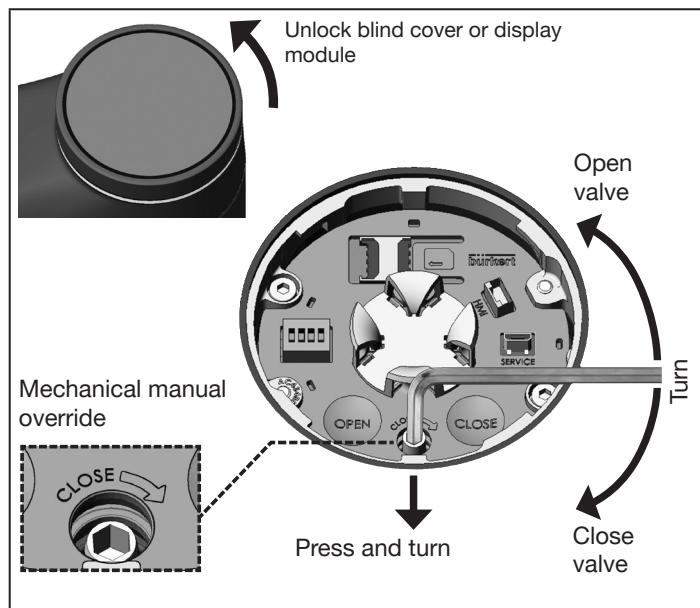
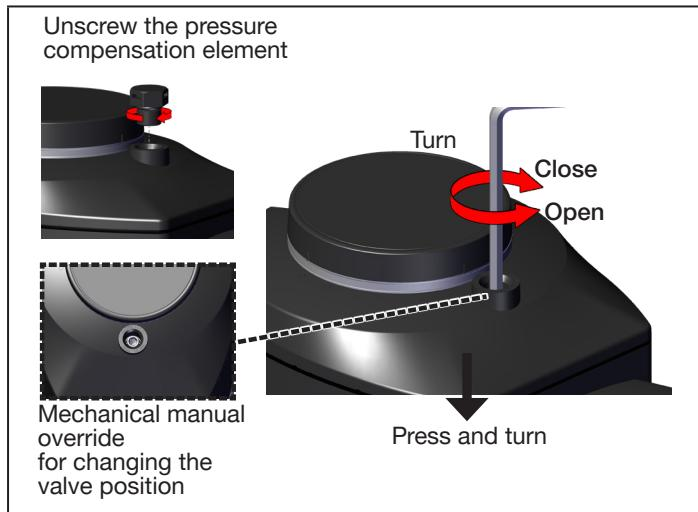

Fig. 39: Mechanical manual override AG2
Fig. 40: Mechanical manual override AG3
- Apply light pressure to lock the mechanical manual override mechanism into place while turning the Allen key at the same time (see "Fig. 39" and "Fig. 40").